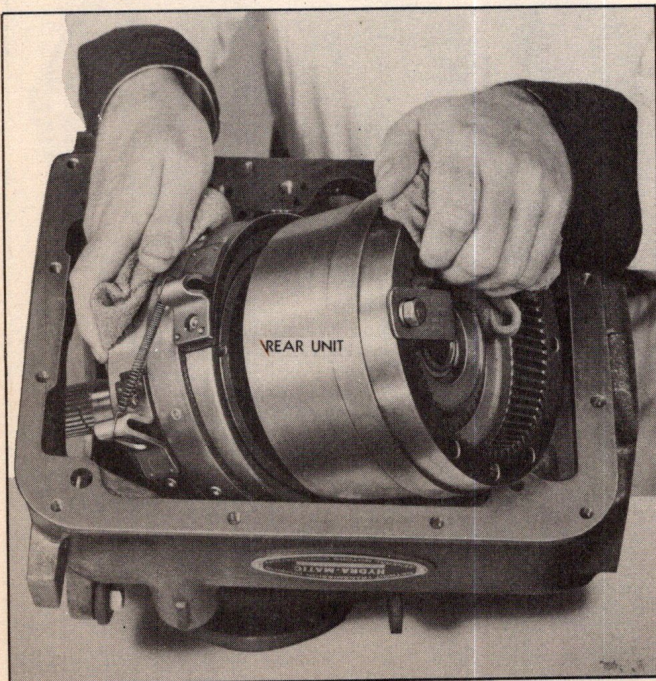

Fig. 289—Installing Units in Case
2. Install front and rear units in case by lowering front end of planet carrier into case first (Figs. 289 and 290).